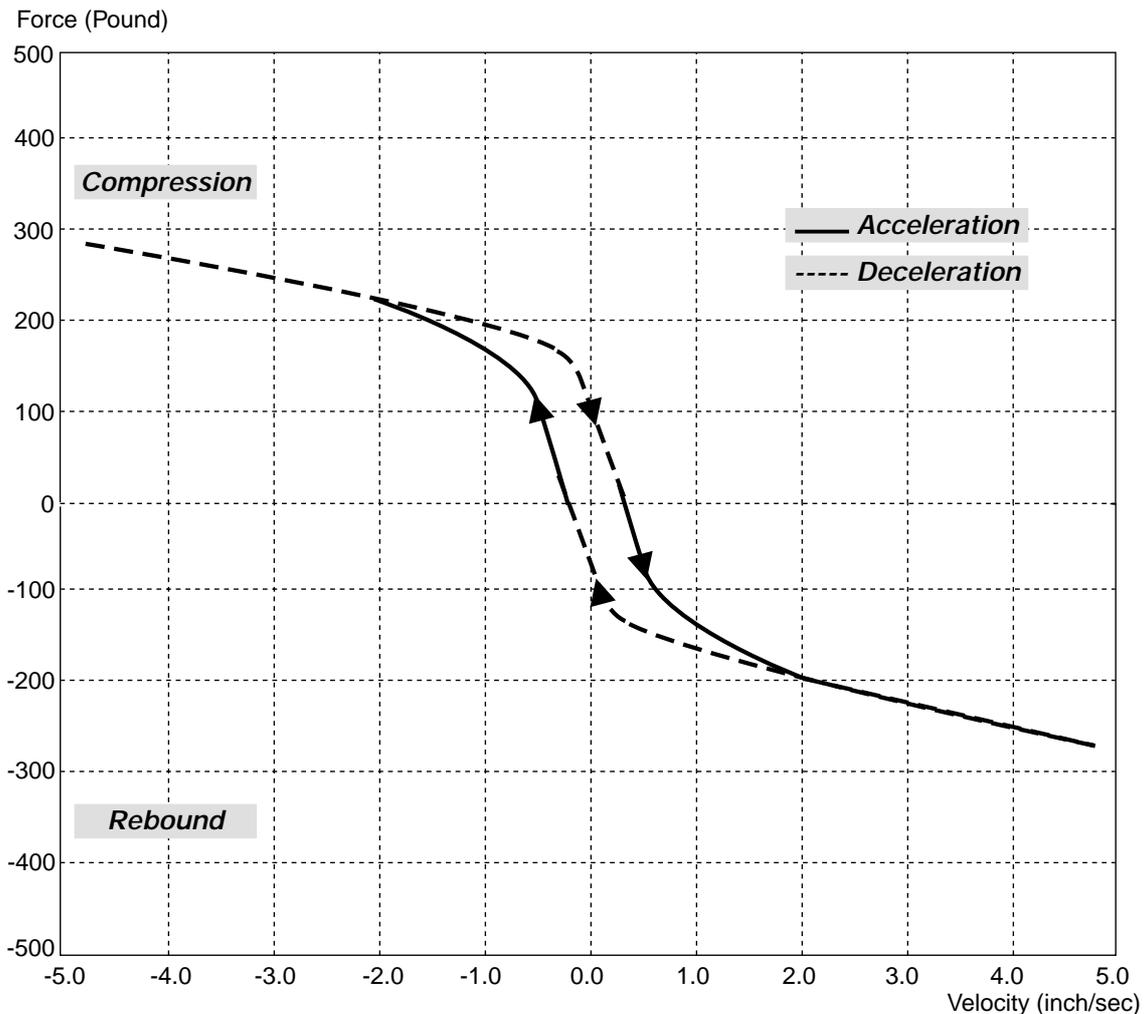

Figure 23. Damping force during a complete sine-wave cycle illustrating hysteresis.
**Note:** In figure 23, negative velocity illustrates compression, positive rebound.